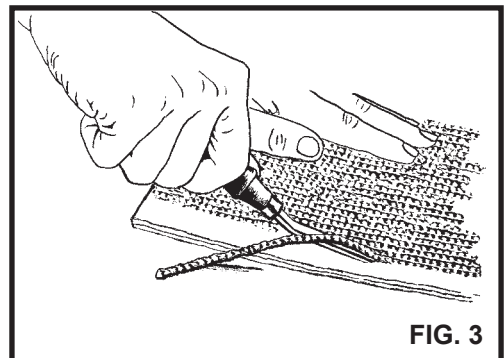

FIG. 3
2. Skive impression cover off from the belt ends that will be laced, if applicable. Skive back 3/4" (Fig. 3).